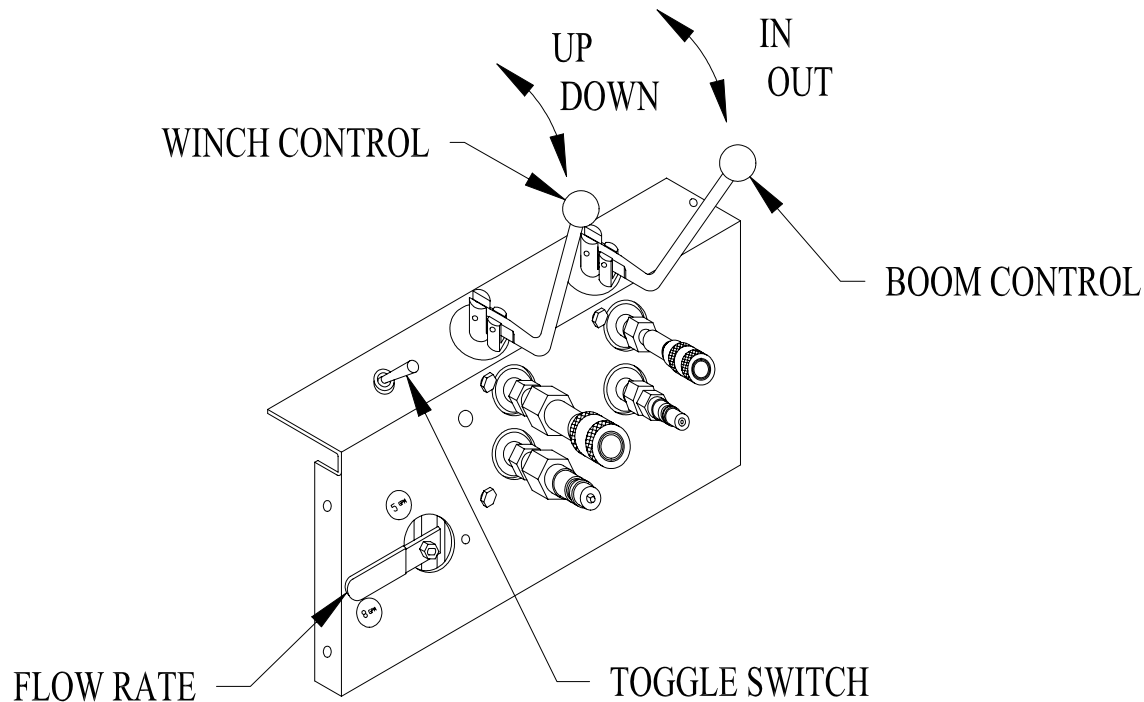

Figure 4-1.
1. The 5/8 lever provides an output of either 5 or 8 GPM. See Figure 4-1. This selection allows the hydraulic winch to operate at two different speed ranges within the limit set by the electronic governor. Speeds vary to about 165 fpm with a single part of line. A speed of up to 80 fpm occurs when using the HS2000 with two parts of line. As wire rope is wound onto the drum, the effective drum diameter increases which increases lifting speed and decreases lifting capacity.
4. Pull winch control lever up to raise a load and down to lower a load. See Figure 4-1. Never allow anybody to ride on the hoist. Make a few “dry runs” (without load, but **with** ballast) to become familiar with operation, controls, and HydraPak, and to test hoisting clearance. Always maintain 10-20 pounds of wire rope tension with a cable weight. Do NOT attempt to make any equipment adjustments during operation.
6. Use the boom control lever shown in Figure 4-1 to swing the boom 135° to load or unload material on the roof deck where you are working.